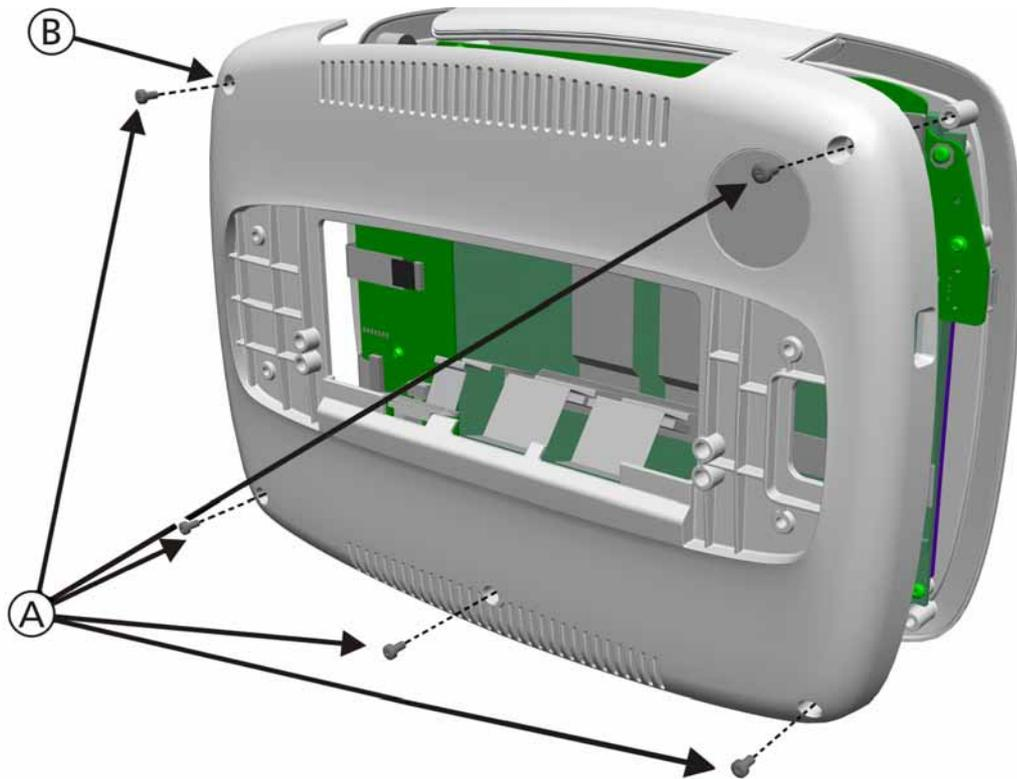

Figure 11-4. Interaction Panel Large Rear Cover Removal
- Figure 11-4, *Interaction Panel Large Rear Cover Removal*, on page 11-9